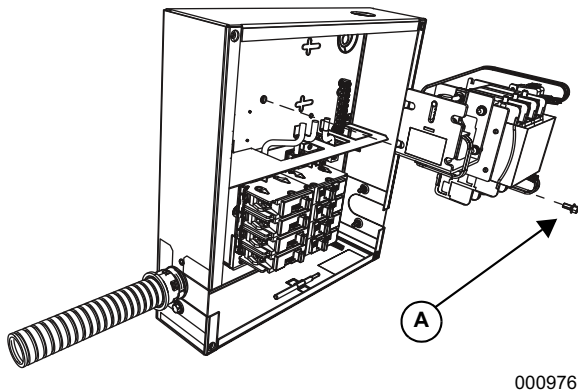

Figure 3-3.
4. Remove the screw that holds the transfer mechanism in place (A in Figure 3-3), and remove the 3 pole transfer mechanism from the transfer switch.